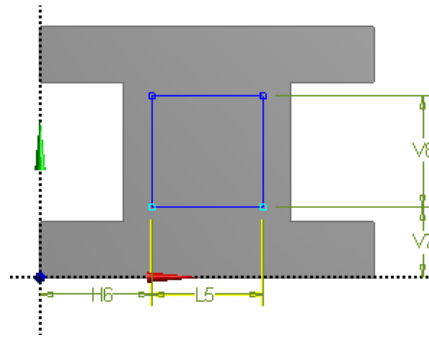

Figure 3-42 Final sketch of the cutout feature
16. Move the cursor downward and click to place the dimension, refer to Figure 3-42.
17. Similarly, generate other two dimensions, refer to Figure 3-42.
18. Edit the value of the first dimension **H6** to 40 in the **Details View** window; the length of the line is changed to 40 mm and is displayed in the **Graphics** window, refer to Figure 3-42.
19. Click on the edit box next to the second dimension **L5** and specify the dimensional value as 40; the dimension of the line is changed to 40, refer to Figure 3-42.
20. Similarly change the dimensional values of **V7** and **V8** dimensions to 25 and 40, respectively. Figure 3-42 shows the final sketch of the cutout feature.